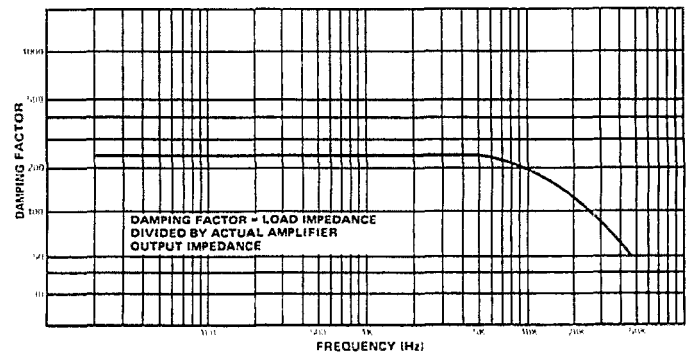

Fig. 19 - Damping Factor vs Frequency (Mono Mode) at 16Ω Load Impedance
**Damping Factor:** (@ 16 ohms) (Refer to Figures 19 and 20).